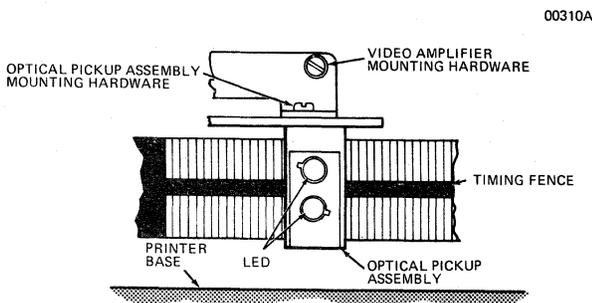

Figure 6-9 Vertical Alignment Optical Pickup
6.4.1 VIDEO AMPLIFIER ADJUSTMENTS—The video amplifier contains an optical pickup assembly which must be adjusted. The optical pickup vertical alignment and optical pickup/timing fence alignment should be performed simultaneously with the timing fence adjustment, paragraph 6.2.2. The electrical adjustment of the optical pickup assembly is also described. Refer to Figure 6-9.